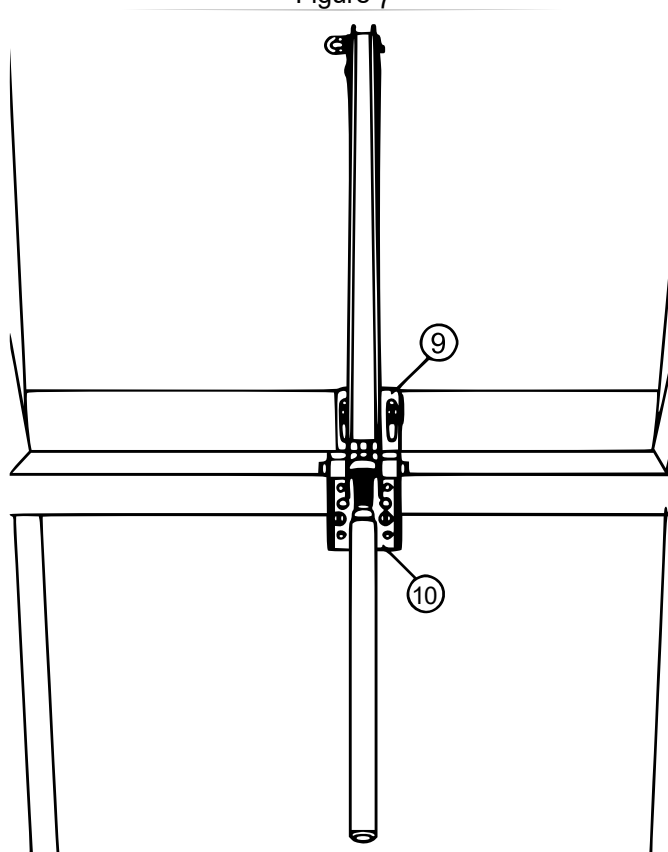

Figure 8
- Attach the frame holder (10) to the window sill and attach the window holder (9) to the window frame, above the frame holder (10). The window should be closed (see fig. 8).
- Screw the cylinder (1) to the cylinder casing (2) until the thread is the same length on both sides of the casing.